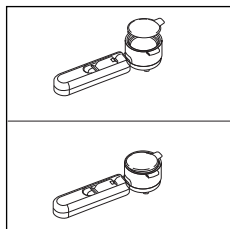

fig. 16
3. Insert a pod, centring it as far as possible on the filter (fig. 16). Always follow the instructions on the pod pack to position the pod on the filter correctly.